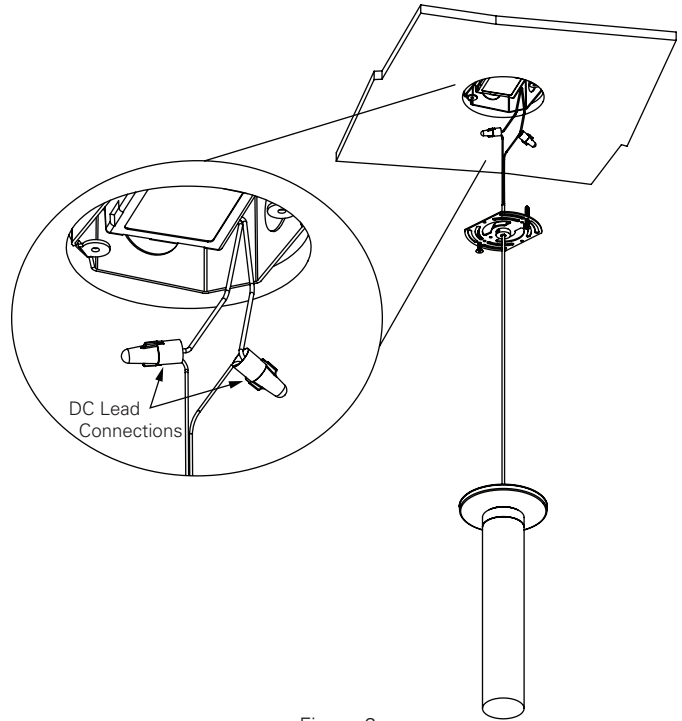

Figure 6.
- Connect the DC leads from the power supply to the leads from the power cable (See Figure 6). Ensure that the DC leads are connected red to red (positive) and black to black (negative).